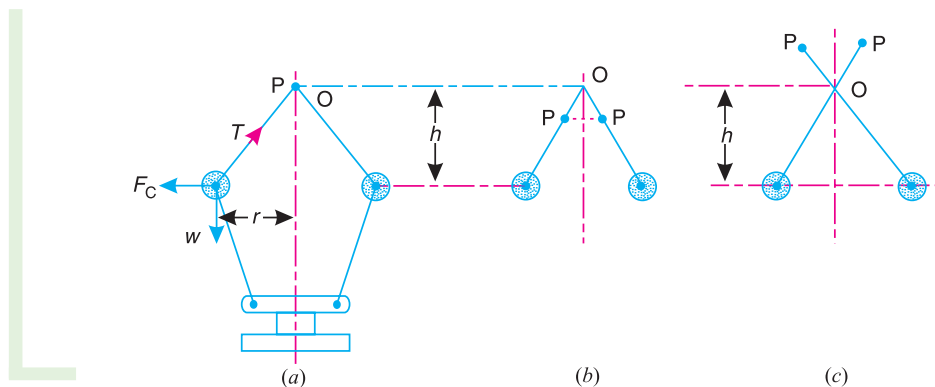

Fig. 18.2. Watt governor.
The simplest form of a centrifugal governor is a Watt governor, as shown in Fig. 18.2. It is basically a conical pendulum with links attached to a sleeve of negligible mass. The arms of the governor may be connected to the spindle in the following three ways :
1. The pivot  $P$ , may be on the spindle axis as shown in Fig. 18.2 (a).
2. The pivot  $P$ , may be offset from the spindle axis and the arms when produced intersect at  $O$ , as shown in Fig. 18.2 (b).
3. The pivot  $P$ , may be offset, but the arms cross the axis at  $O$ , as shown in Fig. 18.2 (c).